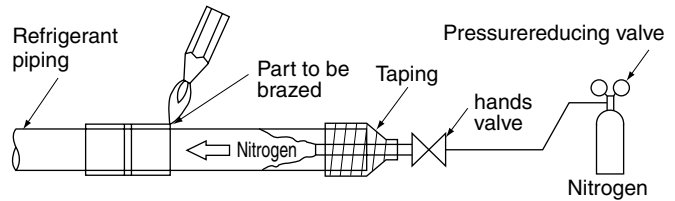

Fig. 7
- Perform nitrogen substituent or apply nitrogen into the refrigerant piping (see NOTE 1) in the case of refrigerant piping brazing (see NOTE 2). Then perform the flare connection of the indoor unit. **(Refer to Fig. 7)**